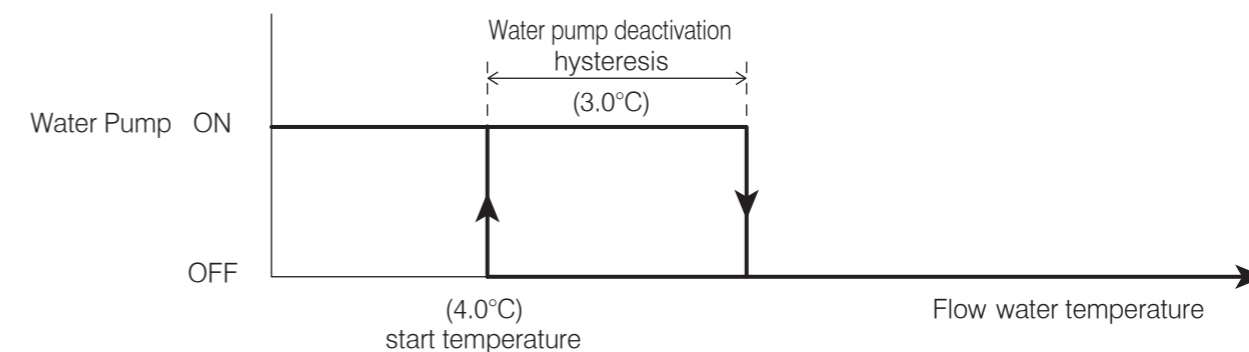

Figure 8-17: Frost protection (flow water temperature) - water pump
- Flow water temperature - refer to Section 8.4.2 and Figure 8-17.